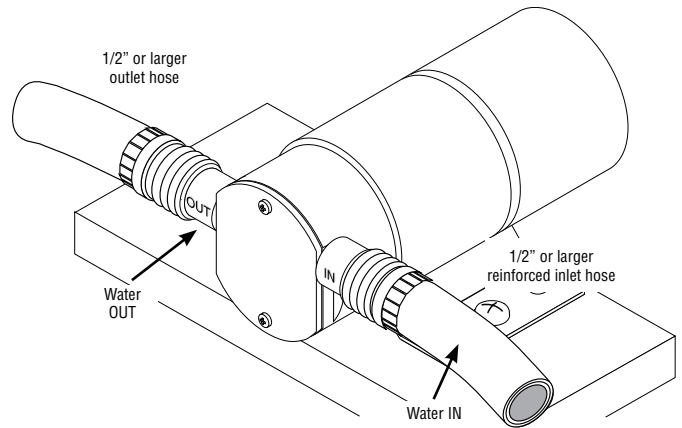

Figure 2 - Hose Connections
3. Connect the outlet hose. Make the outlet hose as short as possible – 25' or less. See Figure 2 (typical pump shown).